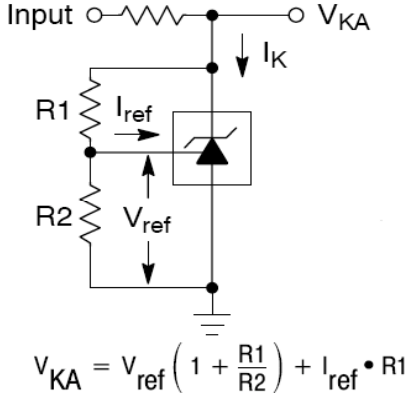

Figure 2: $V_{ka} > V_{ref}$
* When the device operating with two external resistors, R1 and R2, (refer to Figure 2) the total dynamic impedance of the circuit is given by: